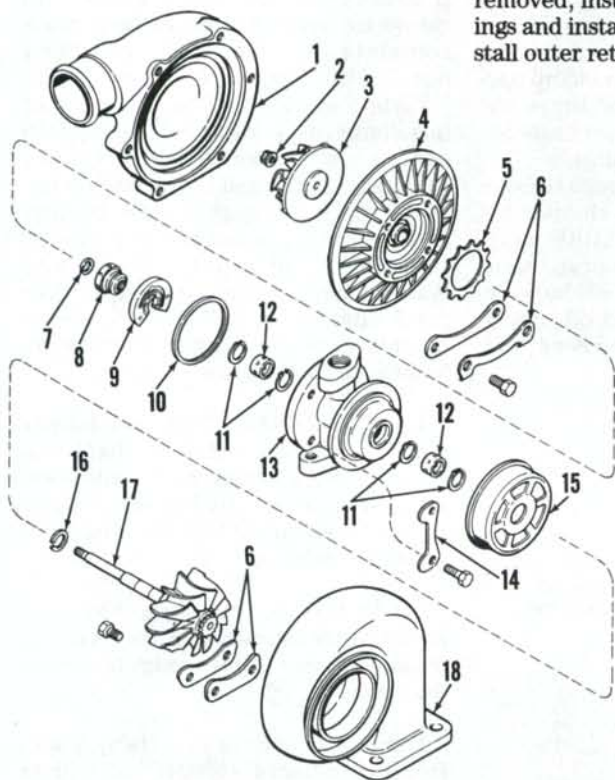

Fig. 76—Exploded view of AiResearch TO4B turbocharger assembly used on 2290, 2390, 2590, 2294, 2394 and 2594 series tractors.
88. OVERHAUL. Parts availability should be checked before overhaul is attempted. Mark across compressor housing (1—Fig. 76), center housing (13) and turbine housing (18) to aid alignment when assembling.
Inspect bearing bores in center housing (13—Fig. 76) for scored surfaces, out-of-round or excessive wear. Make certain bore in center housing is not grooved in area where seal (16) rides. Compressor impeller (3) must not show signs of rubbing with either the compressor housing (1) or backplate (4). Impeller should have 0.0002 inch (0.0051 mm) tight to 0.0004 inch (0.0102 mm) loose fit on turbine shaft. Make certain that impeller blades are not bent, chipped, cracked or eroded. Oil passages in thrust collar (8) must be clean and thrust faces must not be warped or scored. Ring groove shoulders must not have step wear. Clearance between thrust bearing (9) and groove in collar (8) must be 0.001-0.004 inch (0.025-0.102 mm) when checked at three locations. Inspect turbine shroud (15) for evidence of turbine wheel rubbing. Turbine wheel (17) should not show evidence of rubbing and vanes must not be bent, cracked, nicked or eroded. Turbine wheel shaft must not show signs of scoring, scratching or overheating. Shaft journal out-of-round must not exceed 0.0003 inch (0.0076 mm). Groove in shaft for seal ring (16) must not be stepped. If turbine shaft journals are damaged, undersized bearings of 0.005-0.010 inch (0.127 and 0.254 mm) may be ordered, and shaft reconditioned if so desired. Check shaft end play and radial clearance when assembling.